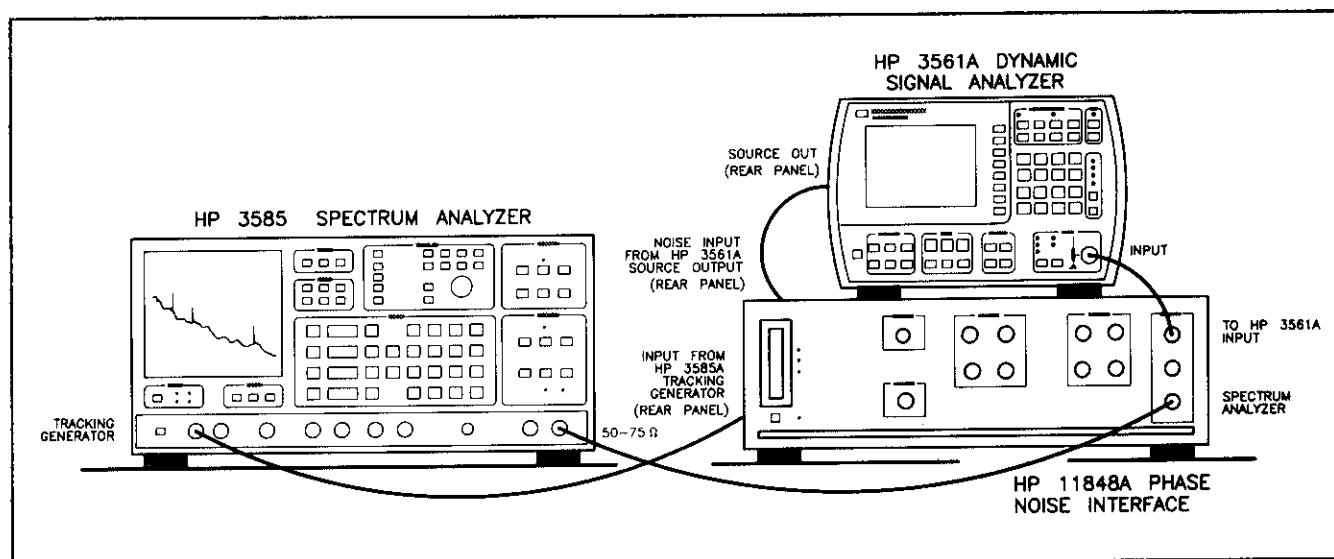

Figure 26. Second Option 1 Calibration Setup
11. Connect the instruments as shown on the diagram and in figure 26.